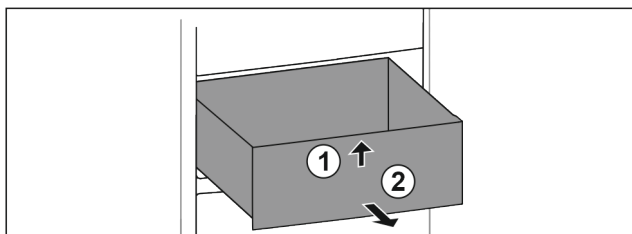

Fig. 32
- Lift up drawer at the front. Fig. 32 (1)
- Remove drawer to the front. Fig. 32 (2)